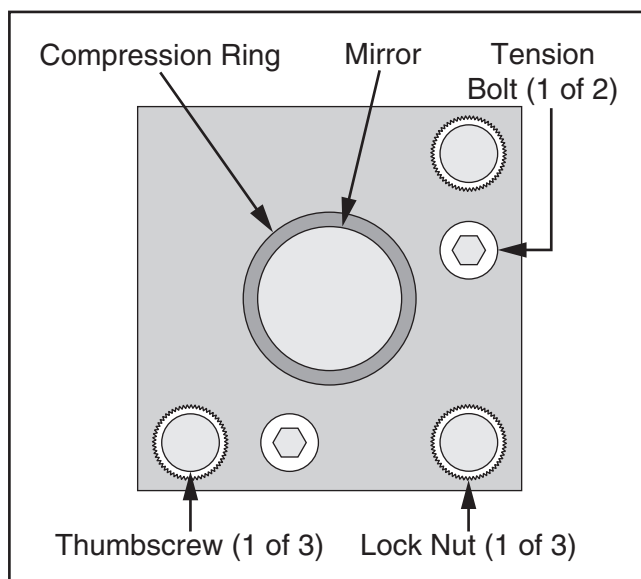

Figure 107. Typical mirror assembly.
12. Loosen lock nuts on (3) thumbscrews located behind Mirror #1 (see **Figure 107**).
19. Loosen lock nuts on (3) brass thumbscrews located behind Mirror #1 assembly (see **Figure 107** on **Page 73**).